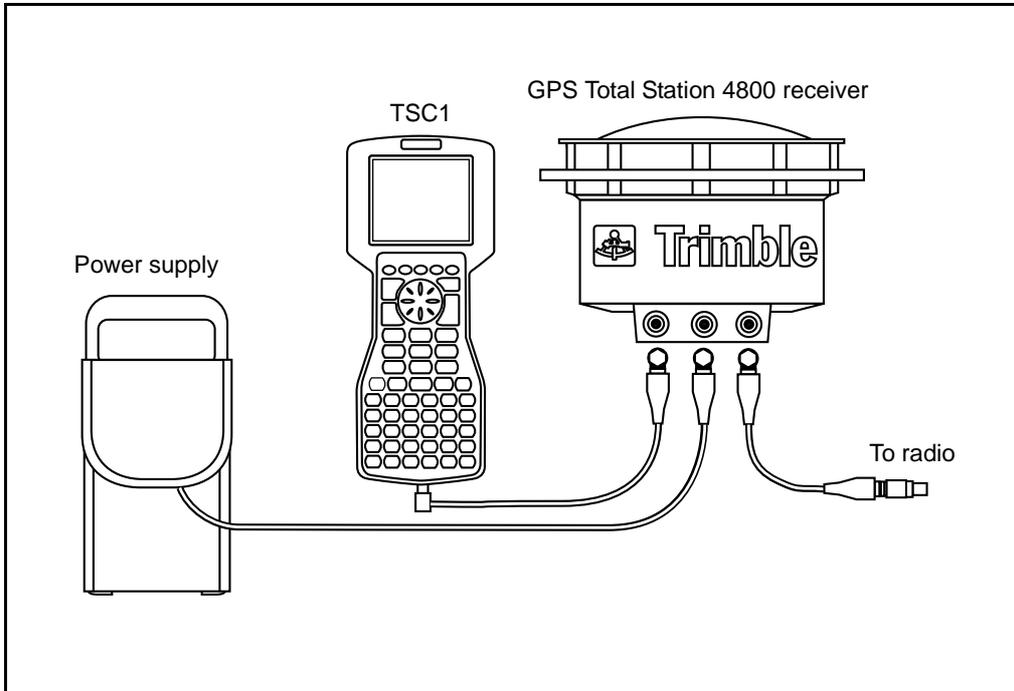
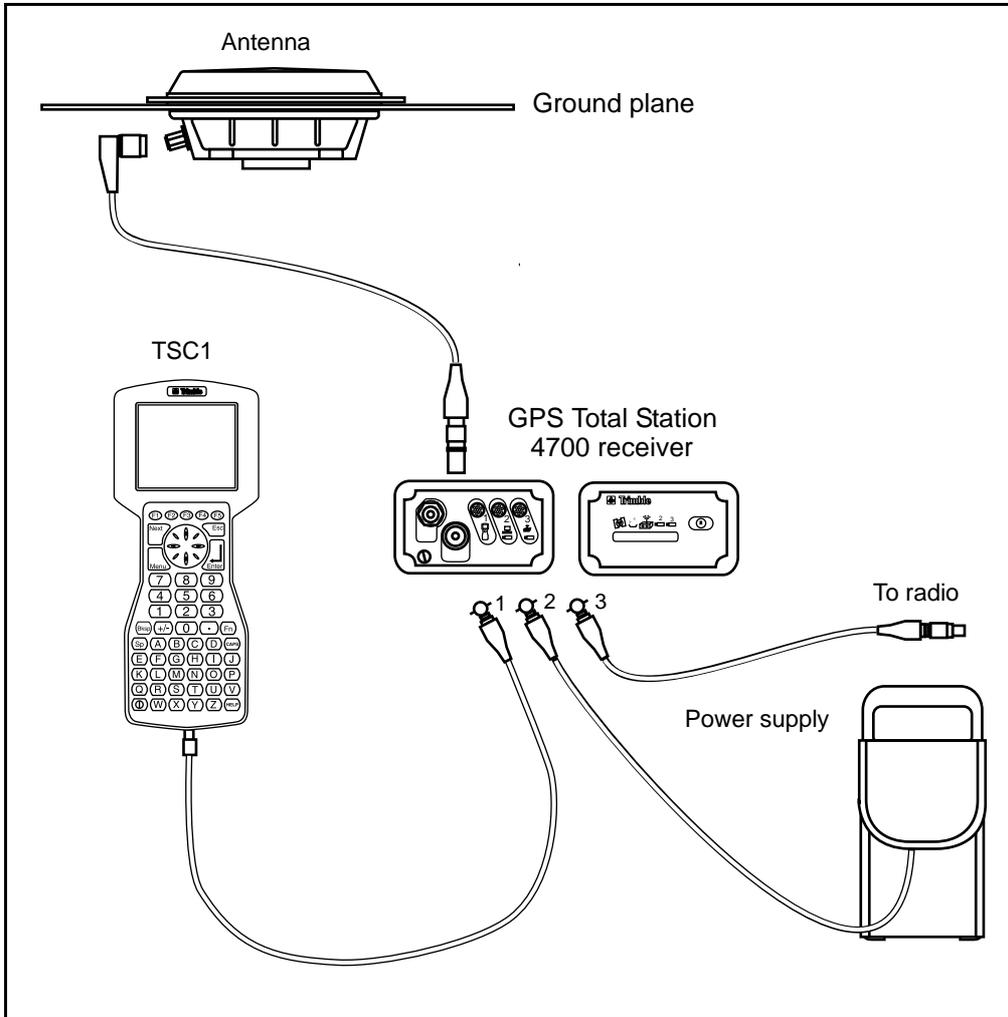

Figure 3.2 Base receiver configuration using a GPS Total Station 4800 receiver
Figure 3.3 Base receiver configuration using a GPS Total Station 4700 receiver
4. Connect the receiver as shown in Figure 3.2 (or Figure 3.3, depending on the receiver type).
Figure 3.2 shows how to connect the base receiver for an RTK survey using a GPS Total Station 4800 receiver.
Figure 3.3 shows how to connect the base receiver for an RTK survey using a GPS Total Station 4700 receiver.